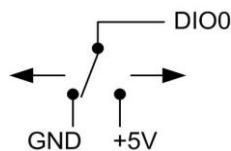

Figure 6. Schematic showing switch detection by digital channel DIO0
You can use the digital I/O terminals to detect the state of any TTL-level input. Refer to the schematic in Figure 6. If you set the switch to the +5 V input, DIO0 reads *TRUE* (1). If you move the switch to GND, DIO0 reads *FALSE* (0).